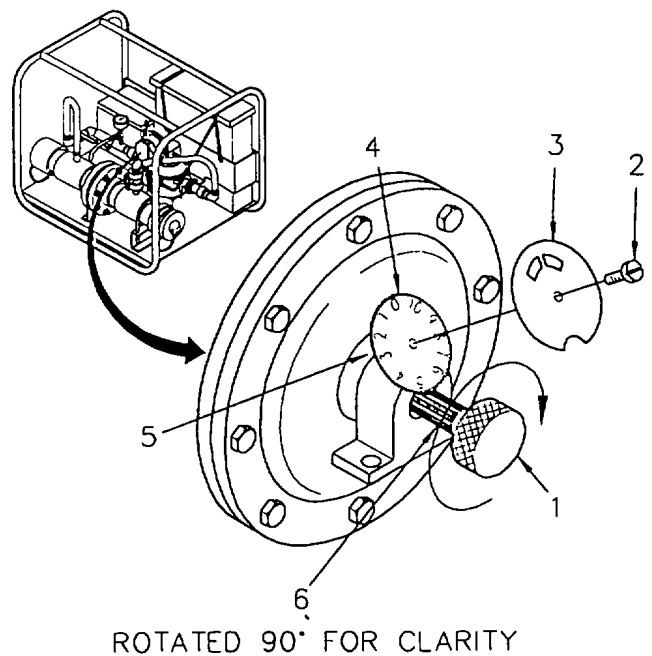

Figure 4-10. Dial Scale Adjustment
(1) Turn ratio-feeder assembly completely off by turning stroke adjusting knob (1, Figure 4-10) clockwise as far as possible, while pump is in operation.